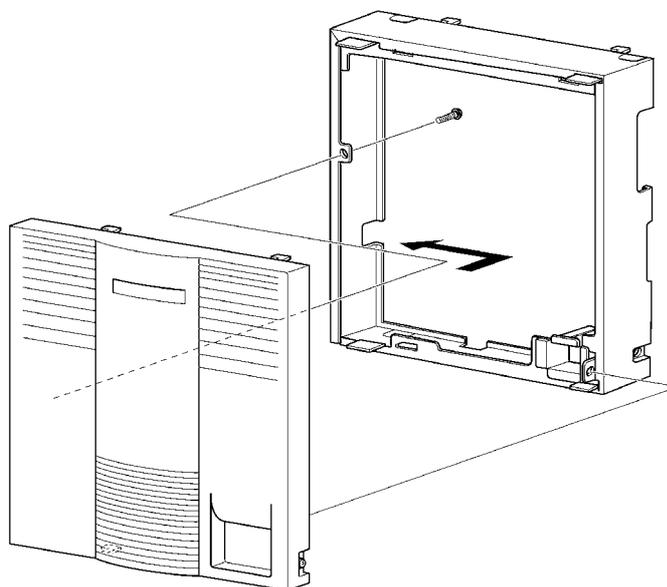

Figure 4-7 Attaching the Front Cover and Front Cover Extender
3. Attach the front cover (previously removed) to the front cover extender using the two screws. Refer to *Figure 4-7 Attaching the Front Cover and Front Cover Extender*.